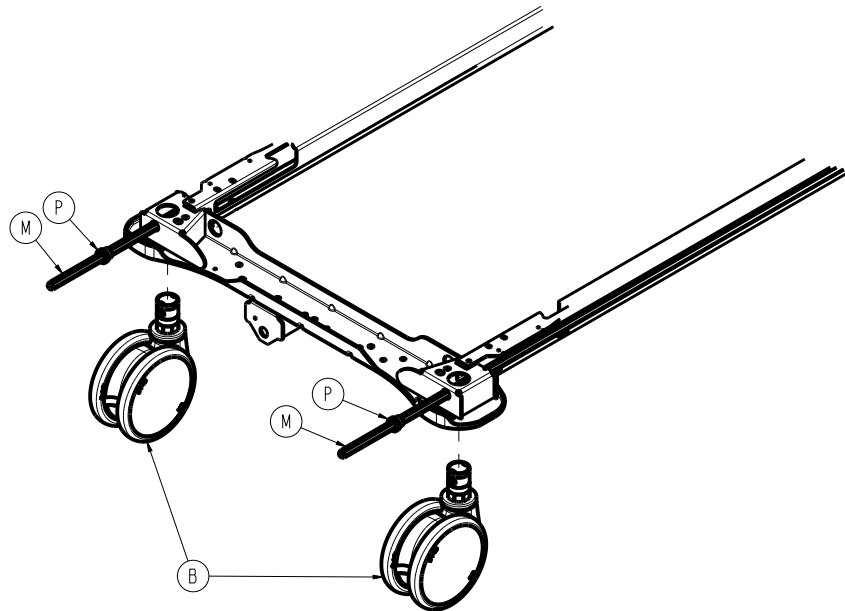

Figure 14 – Removing the caster
- From the opposite end of the caster (B) (which must be replaced), move the brake shaft (M) toward that end until it is out of the caster (B) (which must be replaced) (Figure 14).
8. From the head end, move the brake shaft (M) toward the head until it is out of the caster (B) (Figure 14).